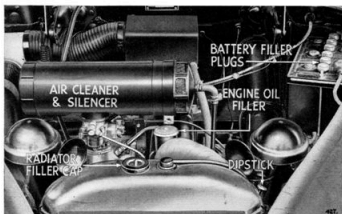

Fig. 4.
Maintain the oil level in the engine sump at the top mark on the dipstick. Wipe the stick before taking a reading (see Fig. 4). Dipstick on left side of engine, near distributor.
**Every 200 miles (320 km.)** the oil level should be checked and topped up if necessary. Withdraw dipstick and wipe clean, then insert and push fully home before withdrawing for reading (see Fig. 4). Should the level be at the lower mark on the dipstick 4 pints (2.2 litres) of oil will be required for topping up.